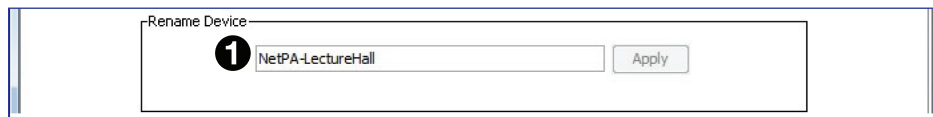

Figure 15. Rename Device Panel
- In the Rename Device panel, enter the new name of the device in the text field (see figure 15, ❶). No spaces are allowed in the name.